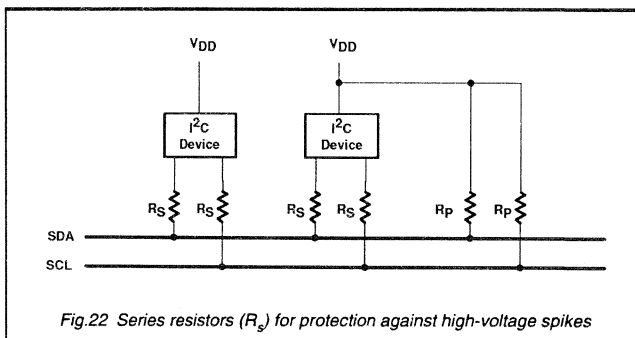

Fig.22 Series resistors (Rs) for protection against high-voltage spikes
- Series resistors (RS) of e.g. 300 Ω can be used for protection against high voltage spikes on the SDA and SCL line due to flash-over of a TV picture tube, for example (Fig.22).
In a standard-mode I2C-bus system the values of resistors Rp and Rs in Fig.22 depend on the following parameters: